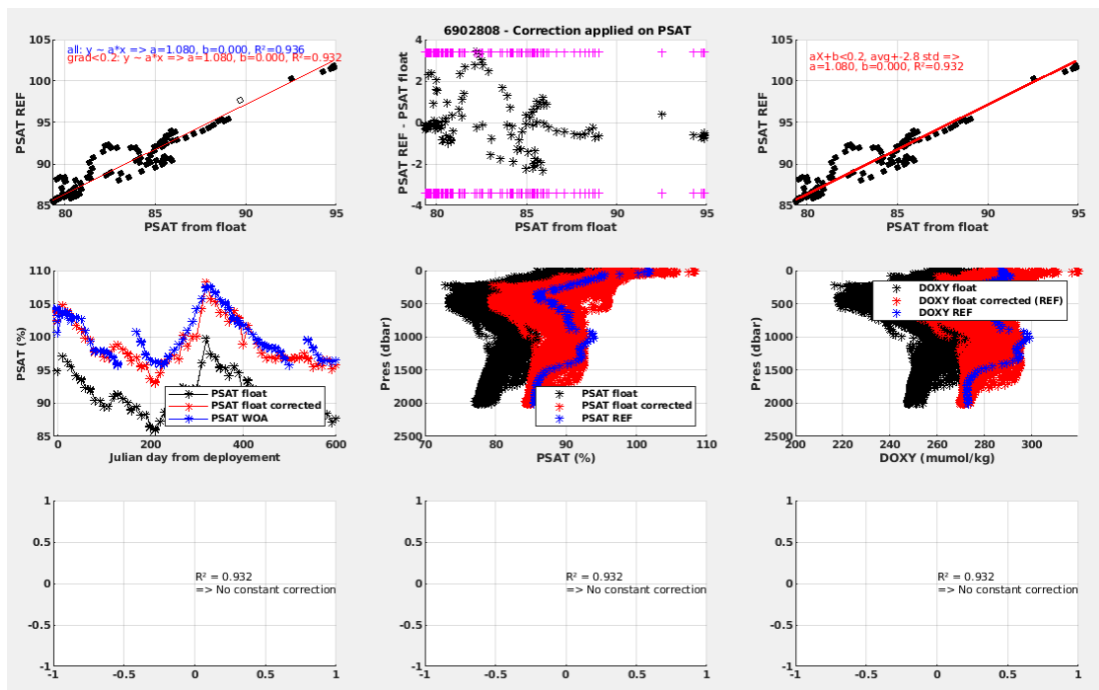

Figure 11.1c. The same as Fig. 11,1b but when the REF method was selected (saved as “DOXY_PLOT_corr...”).
- Figure 11.1c is an example of the figure displayed when the REF method was chosen for the correction. The plot is organized exactly the same way as in the plots of the WOA correction. The difference is that the first line is less dense because the correction has been computed with a single in-situ reference profile, instead of a set of WOA profiles. Another difference is in the time-series on the left of the second line; even if the selected method is the REF one, the time evolution is shown in respect to the WOA data, since the REF profile provide a single point.
In the examples of Fig. 11.1b and Fig. 11.1c the estimated R2 was above the threshold indicated in the configuration file, so, no constant correction should be applied. However, when the R2 is below the threshold indicated in the configuration file, a constant correction is proposed to apply instead of the linear regression correction (see 3.2.3). When R2 is below the threshold indicated in the configuration file another question dialogue box emerges (Fig. 11.1d).